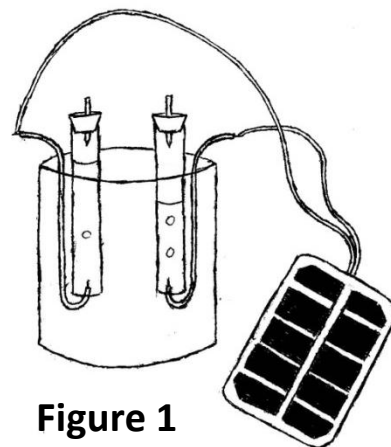

Figure 1
8. The apparatus should resemble **Figure 1**. When given permission by the teacher, carefully walk the apparatus outside so that the solar panel is in the sunlight.